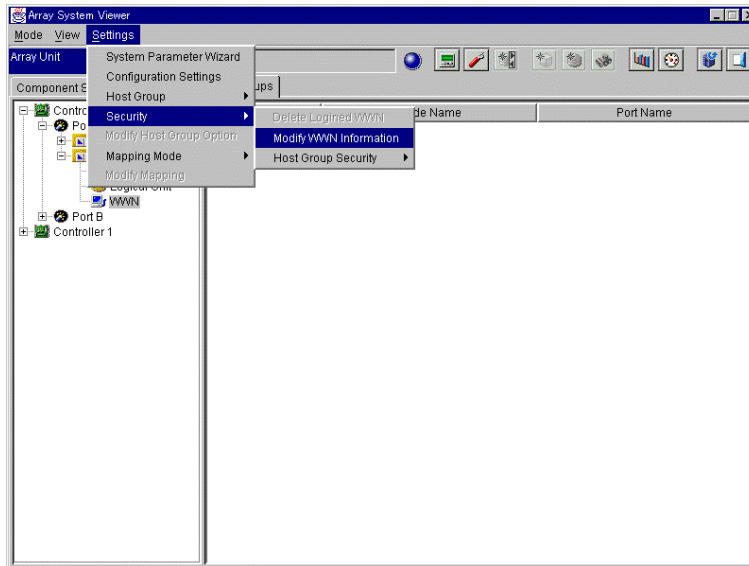

Figure 3.10 Modify WWN Information from the Setting Menu
1. Select a **WWN** icon in the Host Group, then point to **Security** in the **Settings** menu and select **Modify WWN Information** (see Figure 3.10).
1. Select a **WWN** icon in a Host Group, then point to **Security** in the **Settings** menu and select **Modify WWN Information** (for details, refer to Figure 3.10).
1. Select a **WWN** icon in a Host Group, then point to **Security** in the **Settings** menu and select **Modify WWN Information** (refer to Figure 3.10).